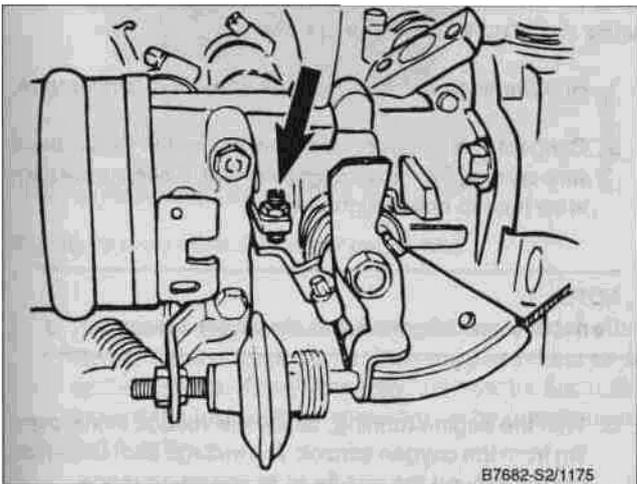
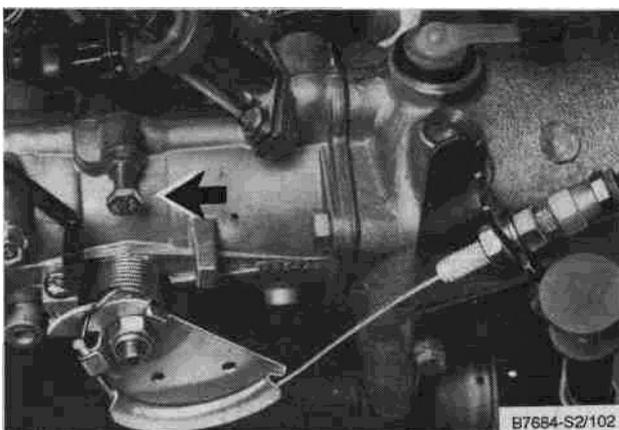

Fig. 32. Throttle stop screw and locknut (arrow).
Fig. 34. Throttle valve air bleed screw (arrow) used on early models. Later models with LH 2.2 do not have this screw.
5. Start the engine and let it run until the radiator fan cycles at least once. contacting the throttle lever. See Fig. 32. Thread the screw in until it touches the lever
6. Depending on the throttle housing, turn either the throttle valve stop screw (Fig. 32) or the throttle valve air bleed screw (Fig. 34) out until the duty cycle is 38% (34° dwell).